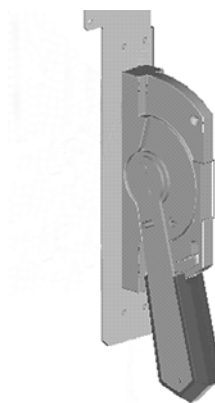

Figure 4 – Isolation Switch Handle in the OFF Position
1. Move the isolating switch handle to the OFF position; this is the lower position of the handle (see Figure 4). **You must move the isolating switch handle to the OFF position before any door providing access to a medium voltage compartment will open.**